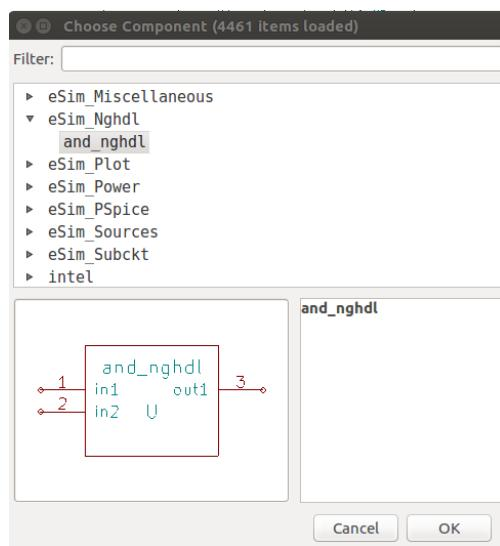
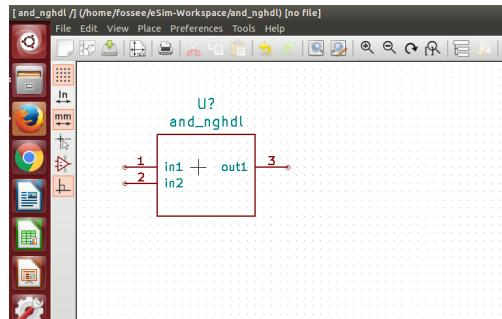

Figure 9.8: Locating the component in library
Figure 9.9: Placement of component on editor
3. Next step is to locate the component in **eSim_Nghdl** library as shown in Fig. 9.8 and place it on the schematic editor as shown in Fig. 9.9.